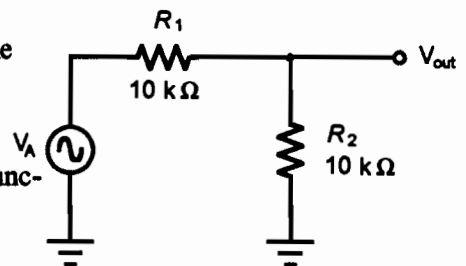

Figure 4.3
- Construct the circuit of Figure 4.3. Using your oscilloscope, set the function generator to provide a sinewave signal of 3 vp-p at 1 kHz.